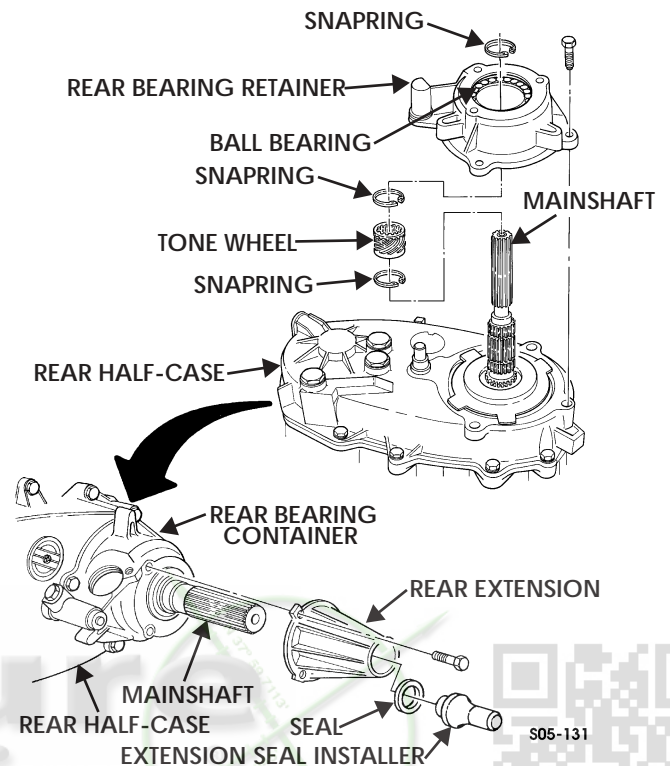

Figure 5-184: Rear Extension
42. Install tone wheel on mainshaft with two snaprings (Figure 5-184).